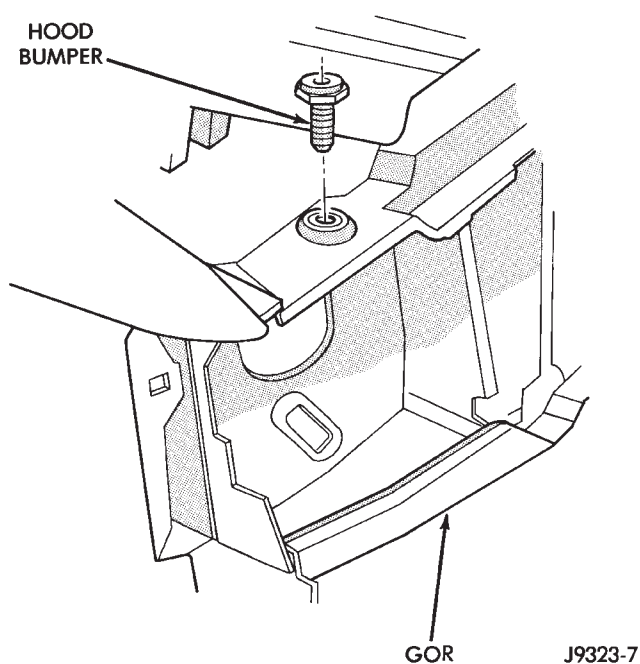

Fig. 13 Hood Bumper
(1) If hood is low in relation to cowl panel, insert shims between hinge and hood.
(2) Adjust hood bumper (Fig. 13) in or out to adjust hood-to-fender height alignment.